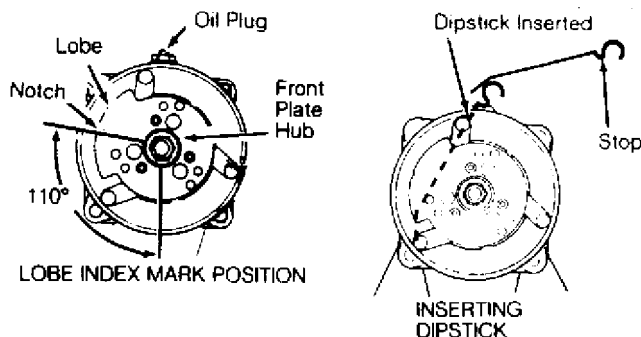

Fig. 1: Checking Oil Level (Sanden 5-Cylinder & 7-Cylinder)
1) Discharge system. See SERVICING PRECAUTIONS at beginning of article. Remove compressor belt and loosen mounting bolts. Rotate compressor in brackets until filler plug is at top. Clean area around filler plug and remove plug slowly. Rotate front hub plate so notch in lobe is 110 degrees from bottom. See Fig. 1. This rotates ball end of top piston to align with oil fill port and allows clearance for dipstick.
2) Insert compressor dipstick diagonally until stop on dipstick contacts filler plug surface. See Fig. 1. Remove dipstick and note oil fill level. Each increment on dipstick represents one ounce of oil.